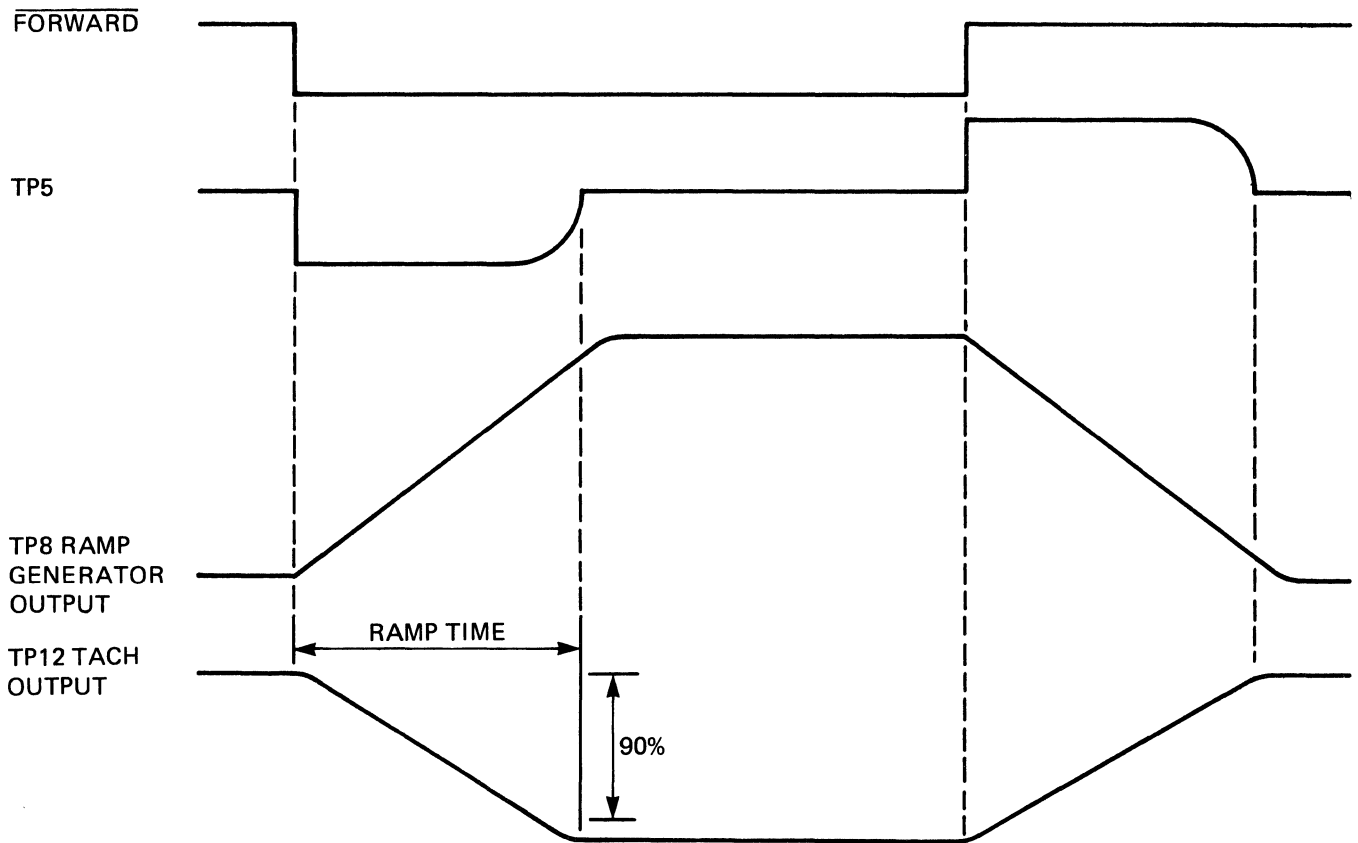

Figure 5-2. Forward Ramp Waveform
- b. Initiate a forward-stop tape sequence using either the tape transport exerciser or the forward/reverse switch. Observe the oscilloscope display (see figure 5-2).